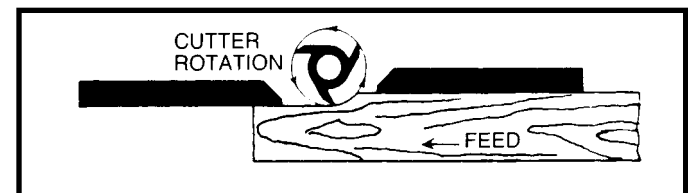

Fig. 26
3. Advance the rear fence to contact the work (Fig. 26), putting it in line with the cutting circle.